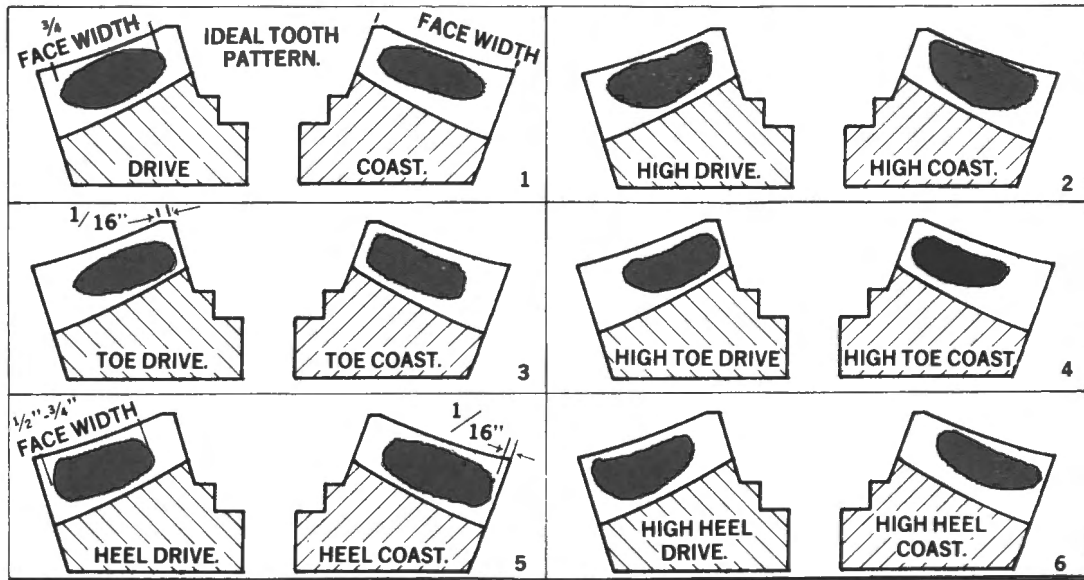
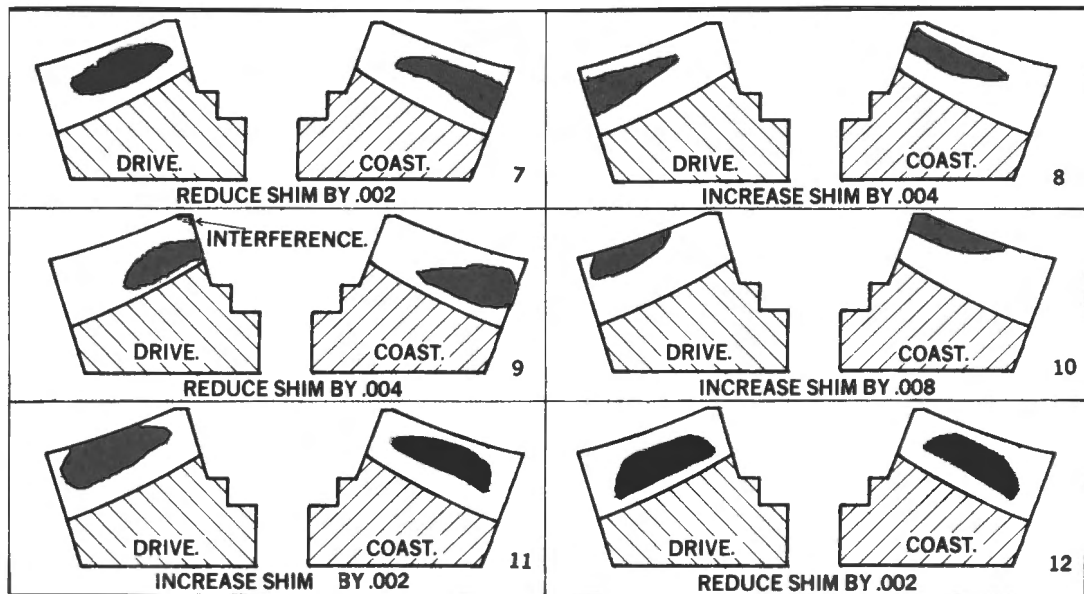

Fig. O-15
Fig. O-16
- 43 Observe contact marking and compare with contact patterns shown. Fig. O-15 and Fig. O-16.